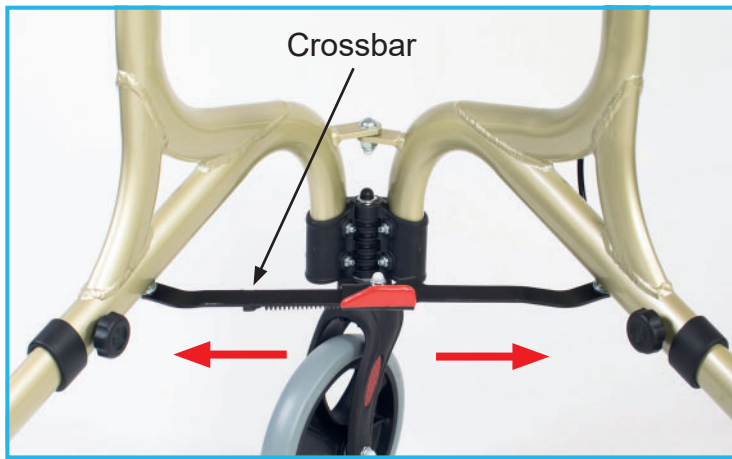

Figure 3: Unfolding the Rollator
1. Refer to Figure 2 and Figure 3. Gently pull the main frame apart until the spring locks the crossbar open.